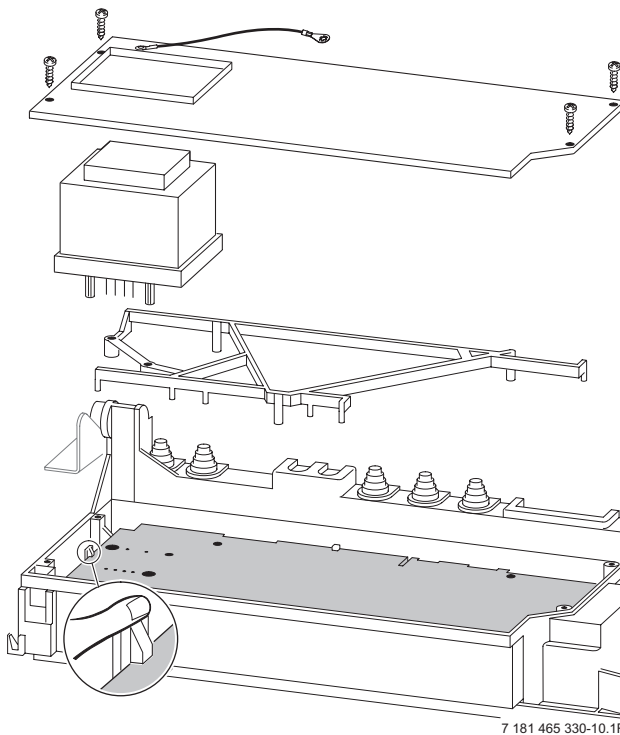

Fig. 56
- ▶ Unscrew four fixing screws from cover plate. Refer to fig. 56.